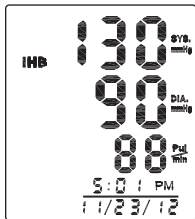

Fig. 5
6. If an irregular heartbeat was detected during the reading, the Irregular Heartbeat Detector indicator will appear flashing on the display, Fig 5. See page 16 for more information on the Irregular Heartbeat Detector feature. **IHB**